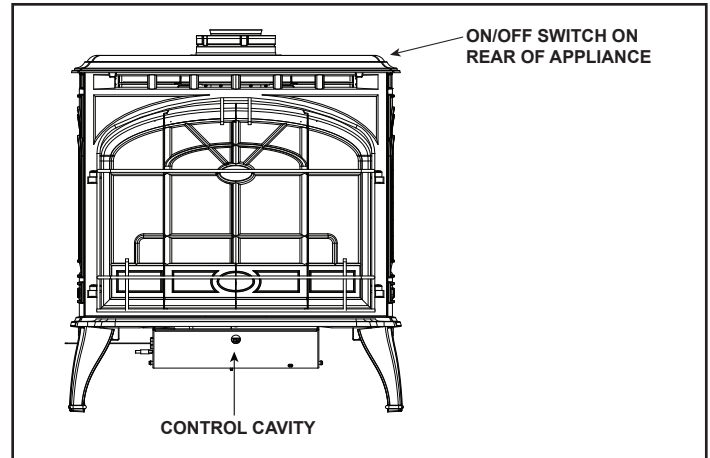

Figure 3.5 - ON/OFF Switch/Control Cavity Location
1. Access the control cavity of the appliance. See Figure 3.5 for location.
- Toggle the switch as you would under normal circumstances. Figure 3.5
To operate the appliance without a wall control or remote control, use the ON/OFF switch located on the front panel of the control cavity of the appliance. Figure 3.5.